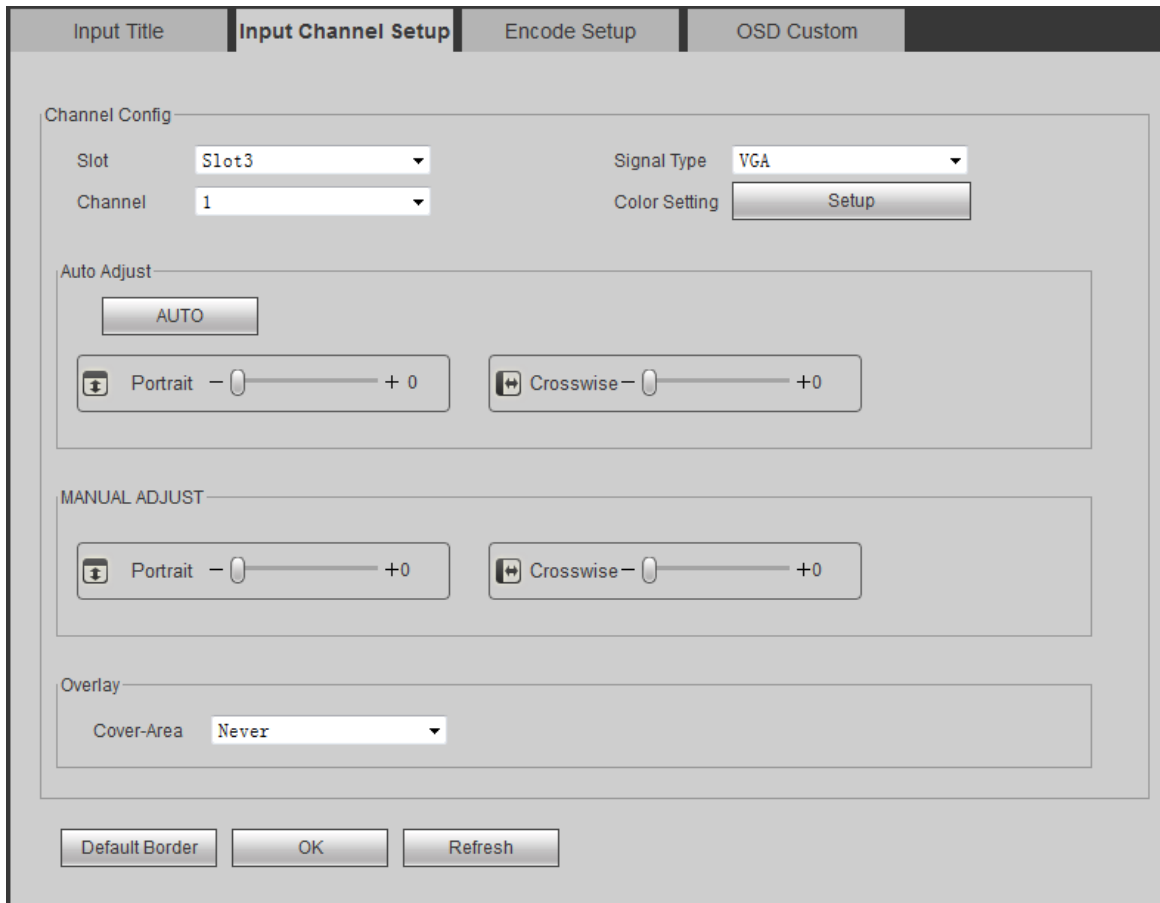

Figure 4-79
Step 1 Select “Setup>Signal >Local Signal>Input Channel Setup”. The system displays “Input Channel Setup” interface, as shown in Figure 4-79.